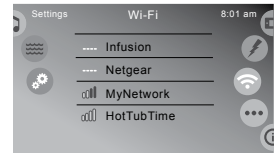

Figure 12.6c
1. Tap the network you want to connect to, Figure 12.6c.